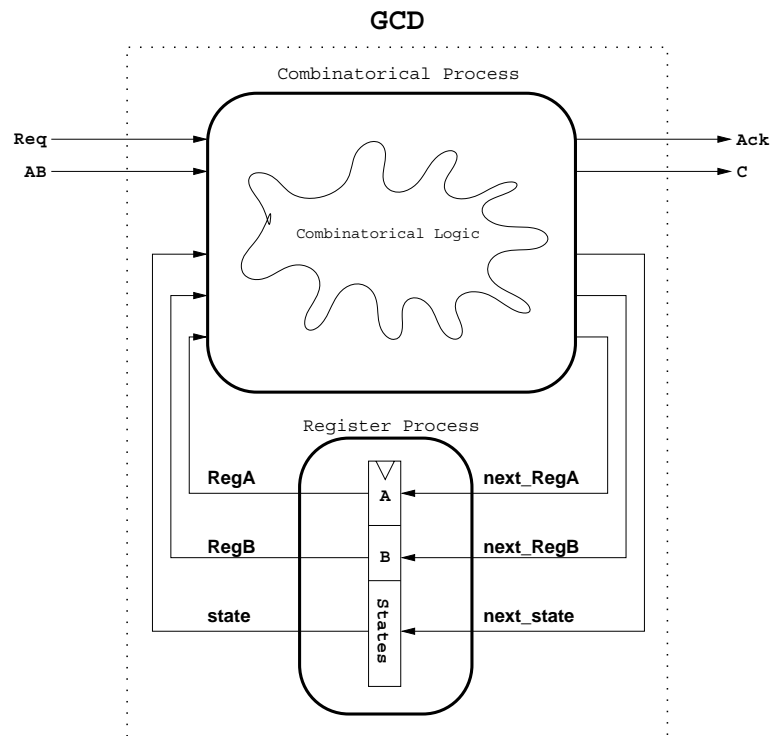

Figure 4: An RTL structure describing the processes needed.
Figures 4 and 5, i.e., cleanly separated into combinational logic (which is synthesized) and D-flip-flops (which are inferred).
- c) Write a new RT-level FSM-style architecture body for the GCD entity (complete the code in the file `task2/gcd.vhd`). The code should be structured following the two-process template described in most textbooks on VHDL and illustrated in Figure 4 and Figure 5. Remember to implement the required fully interlocked handshaking, and remember that after reset your circuit should be able to perform many computations in sequence without being reset again.